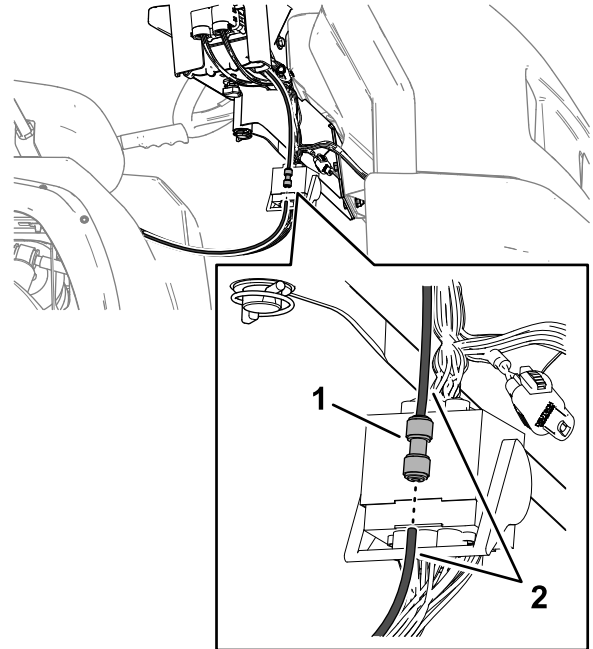

Figure 97
1. Insert the pressure-sense tube into the push-to-connect fitting until it is fully seated (Figure 97).